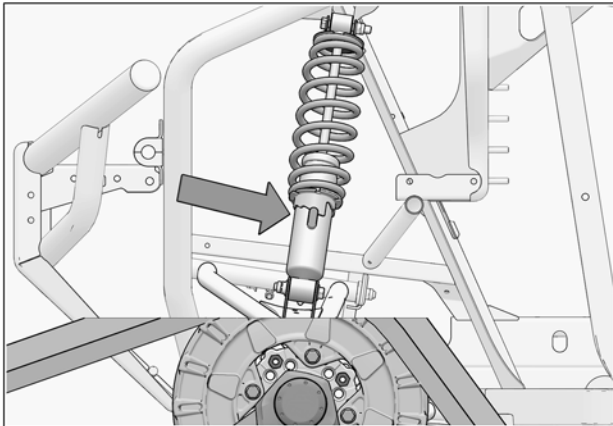

Fig. 27
1. Verify the suspension settings. If the shock absorbers are adjustable, adjust them to the stiffest setting to allow for maximum clearance between track systems and the vehicle fenders. See Fig. 27